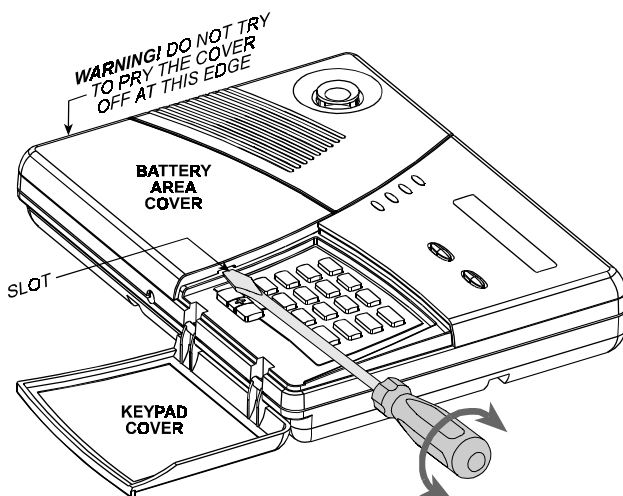

Figure 1. Prying the Cover Loose
A. Insert a screwdriver into the slot shown in Figure 1.